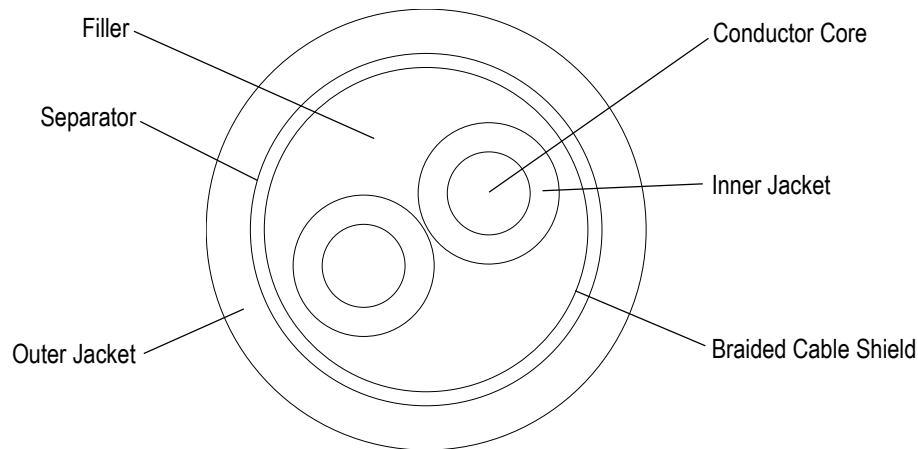

Figure 2
2.5. Cable and Subcomponent Specification (Figure 2)
Refer to Figure 2 for the various components of the cable as shown in an end view of the cable.